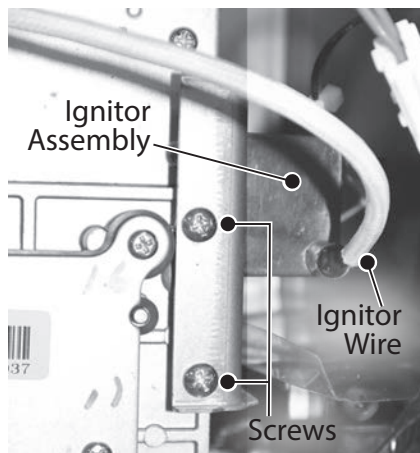

Figure 136 - Ignitor assembly location
- 20 Locate the ignitor assembly on the right side of the water heater. See Figure 136.
- 21 Disconnect the ignitor wire from the ignitor assembly. See Figure 136.
- 22 Remove the two screws securing the ignitor assembly and bracket to the gas manifold. Place screws aside in a safe place for reinstallation. See Figure 136.